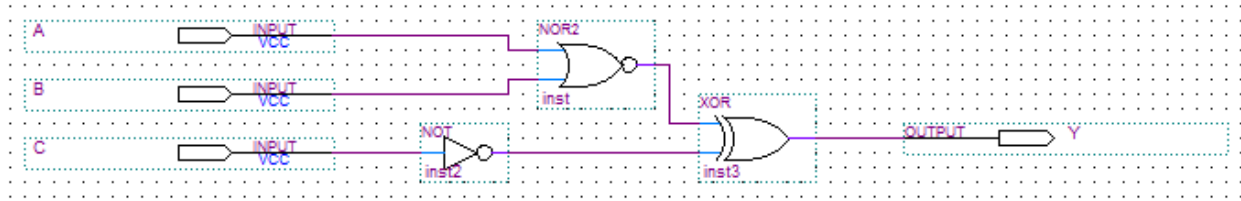

Figure 1.2: Block Editor after step 5.
5. Connect the gates and ports as shown in Figure 1.2.